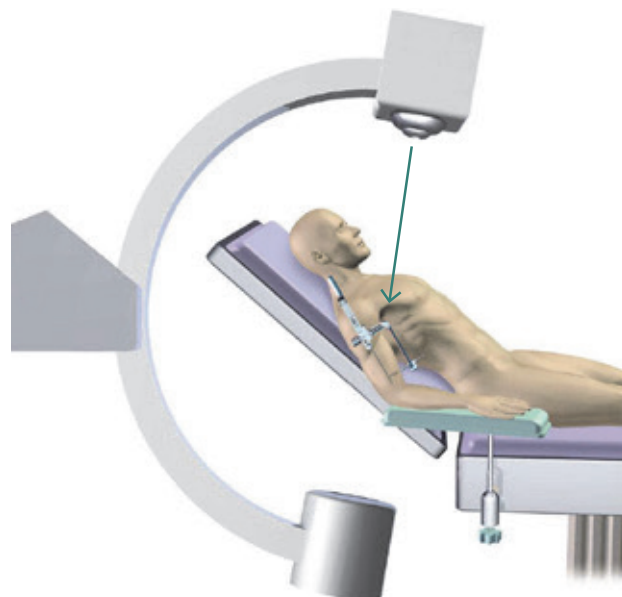

fig. 15
**NB:** Before drilling, check that alignment is correct and the aiming sleeve is centred on the nail using radiographic guidance (oblique view) (**fig.15**).